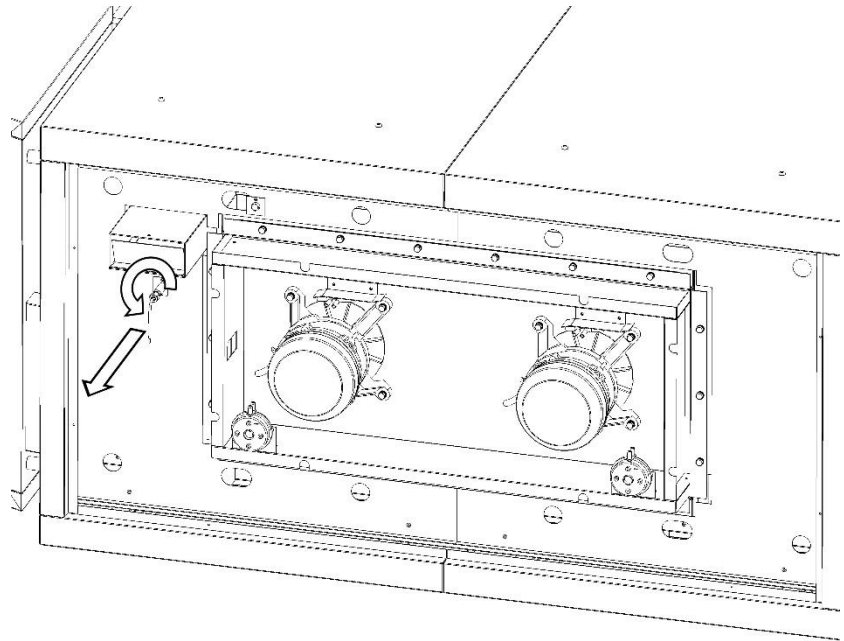

Fig.12B
- 5.Using a wrench 12 loosen the mounting nut of the support and remove the probe (Fig.12B).